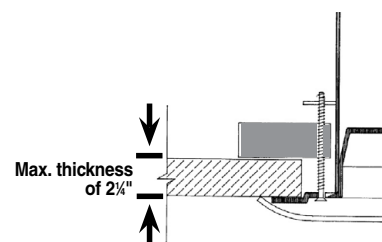

FIG. 4
- Figure 4 Enclosure installation from below ceiling without tile bridge. This blind-mount installation method, which is most common in plaster, drywall and retrofit applications, is accomplished by cutting an opening to size, inserting the enclosure and rotating the clamps. Max. ceiling thickness is 2 3/8".